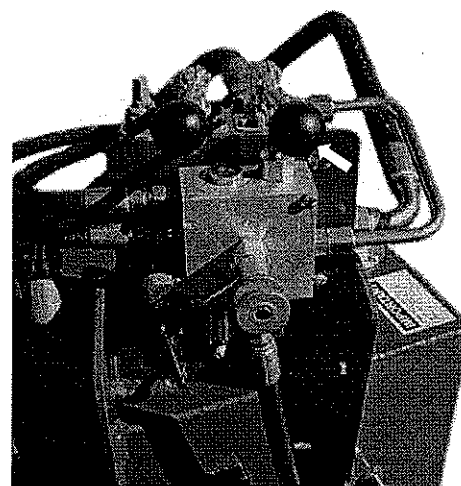

figure 16
**Brush Function Handle** – To activate the brush, start the tractor engine and PTO; then, lift the brush function handle (figure 16), the handle further from the operator's seat. Lifting this handle simultaneously lowers the brush head assembly and starts brush rotation.